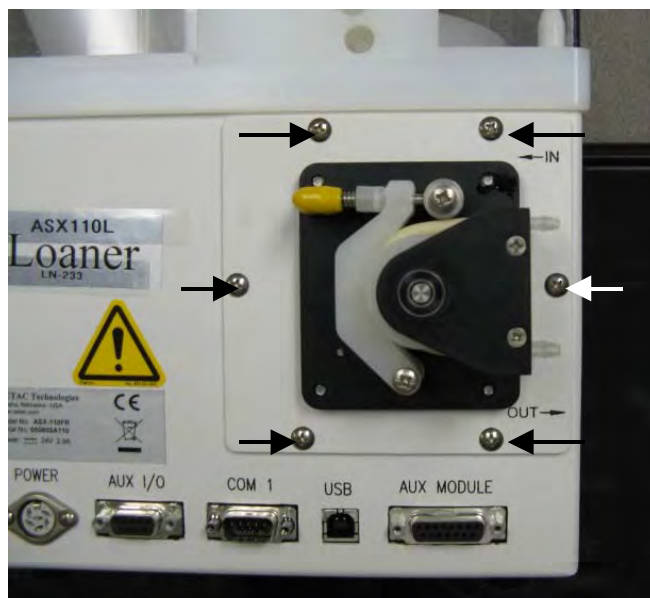

Figure 3-1. Pump mounting plate attachment screws.
2. Remove the six pump mounting plate attachment screws. See Figure 3-1. A ASX-110FR is pictured. The ASX-112FR is similar with communication and power ports located elsewhere.